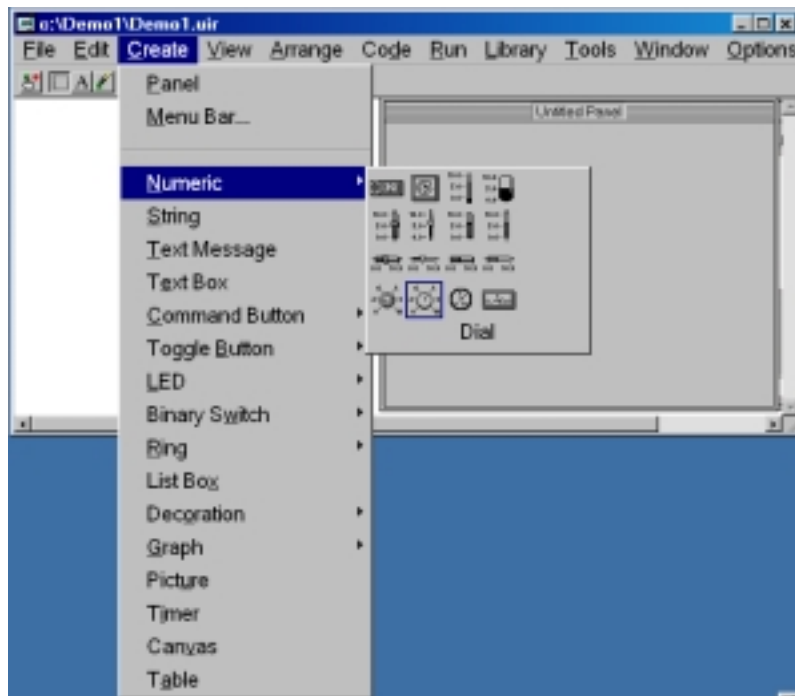

Figure 55: Adding controls to a LabWindows/CVI panel
2. Insert controls onto the panel by making selections from the **Create** menu, as shown in Figure 55.